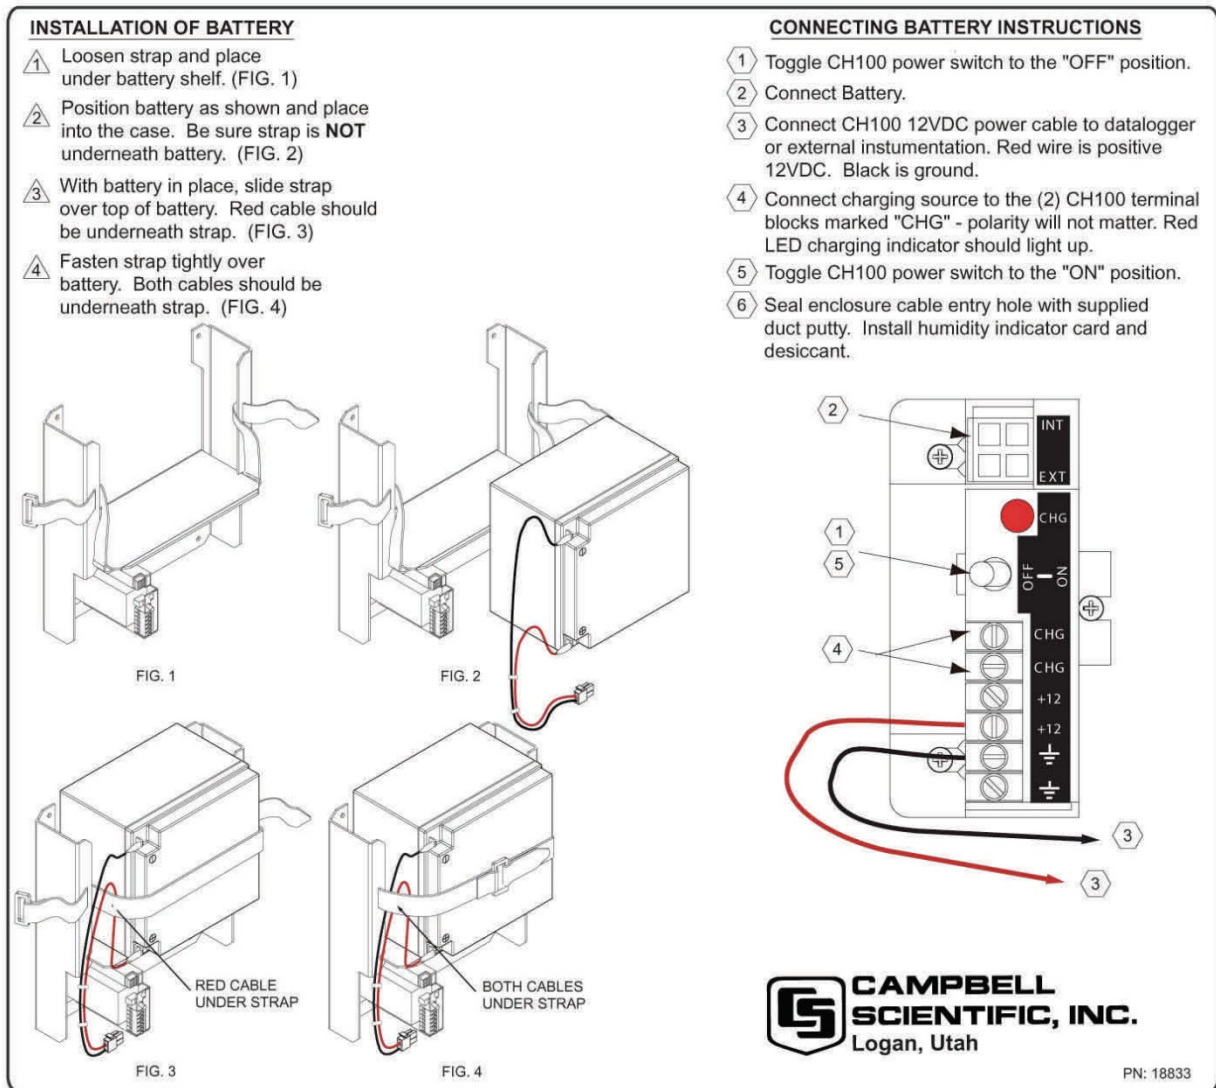

FIGURE B-10. Procedure for installing and connecting battery
13. Follow the Installation of Battery procedure provided in FIGURE B-10. Plug the battery into the connector on the CH100 marked "INT".